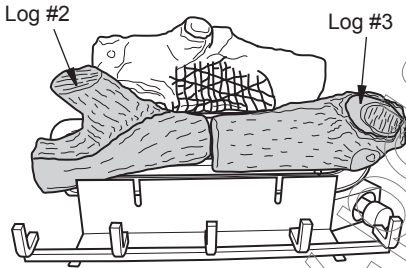

Figure 24 - Installing Logs #2 and #3
2. Place log #2 and log #3 onto middle grate bracket (see Figure 24).